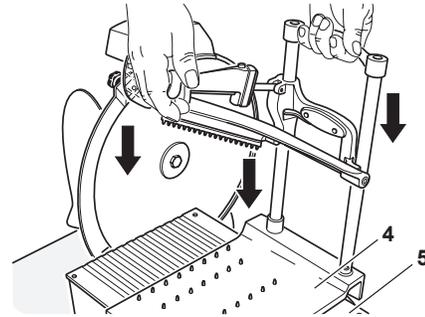

Figure 17-3
- Reposition the product holder (4).
- Place the product holder (4) complete with pusher (3) on the carriage (5) (Figure 17-3).